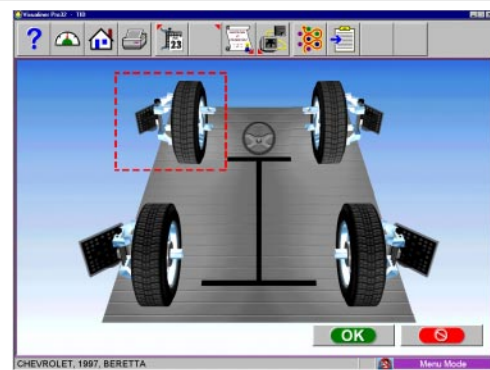

Figure 3-43
4. Move the box around the screen using the arrow keys and click OK, or you can double-click on the desired wheel. (Figure 3-43)